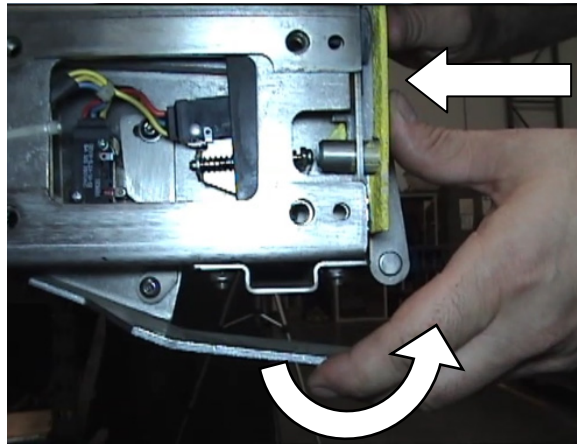

FIGURE 4-20: ROLLSTOP ACTUATOR
- 11) Refer to **Figure 4-20**. Close Rollstop by manually raising Rollstop Actuator Foot until its catch has a clearance above Rollstop engagement hook between 1/16" (2 mm) to 3/16" (5 mm). (as shown in **Figure 4-20**). Hold actuator foot at this gap.